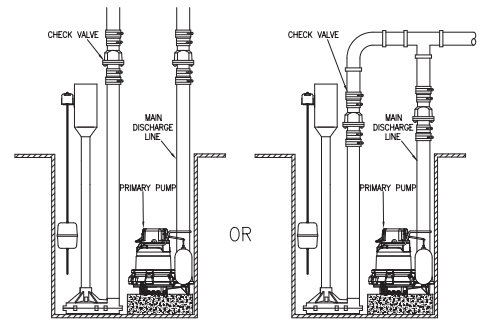

Figure 3.1
3.1) Assemble the discharge pipe into the pump as shown in Figure 3.1.